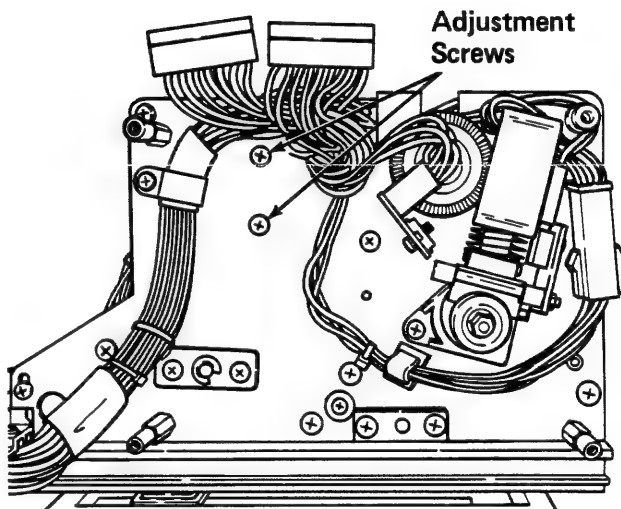

Figure 3-9.3A
3. Loosen the Adjustment Screws (Figure 3-9.3A) securing the Film Thread Motor.